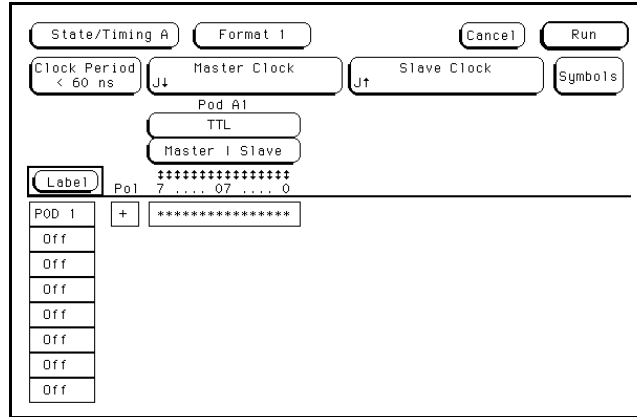

Figure 3-31. Format Screen
- Set up Format screen as in figure 3-31, assigning a falling clock edge as master clock and rising edge of same clock as slave clock. Refer to steps a through c if unfamiliar with the menus.